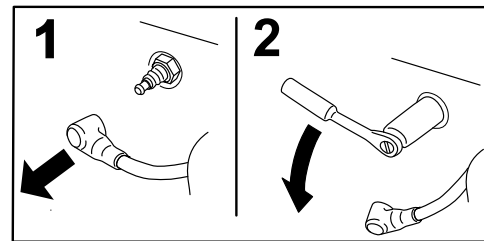

Figure 46
3. Remove the spark plug as shown in Figure 46.